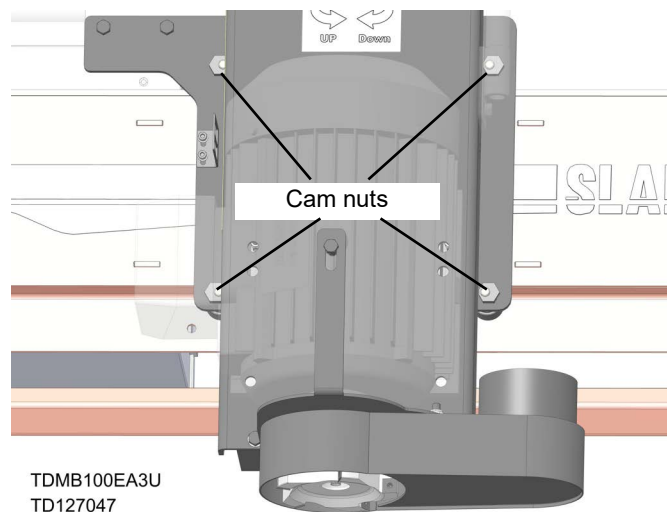

FIG. 5-2
- Locate (4) cam nuts on back plate of up/down assembly. See FIG. 5-2